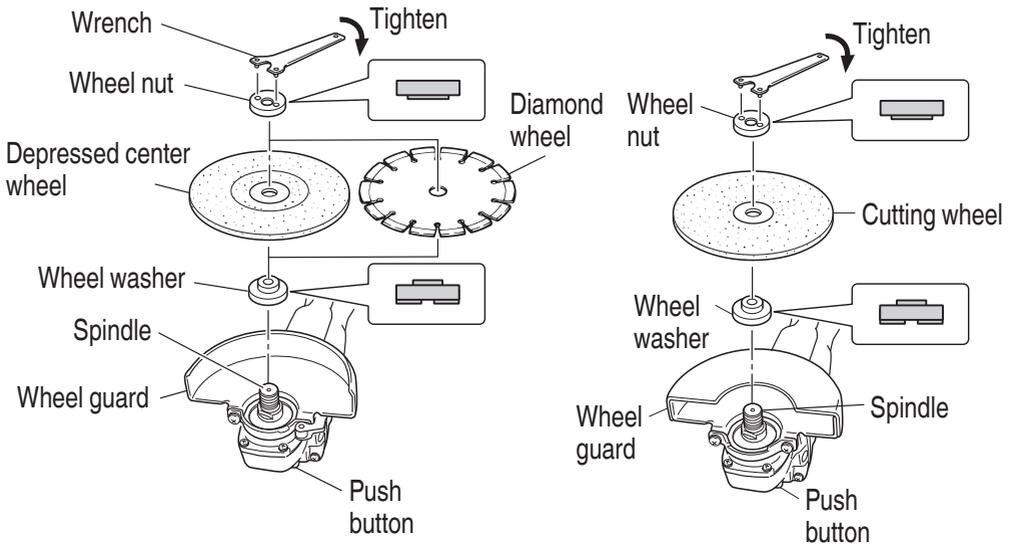

Fig. 13
- (1) Turn the disc grinder upsidedown so that the spindle is facing upward.
- (2) Align the across flats of the wheel washer with the notched part of the spindle, then attach them.
- (3) Fit the protuberance of the depressed center wheel onto the wheel washer.
- (4) Screw the wheel nut onto the spindle.
- (5) While pushing the push button with one hand, lock the spindle by turning the depressed center wheel slowly with the other hand.
- Tighten the wheel nut by using the supplied wrench as shown in Fig. 13 on page 40.